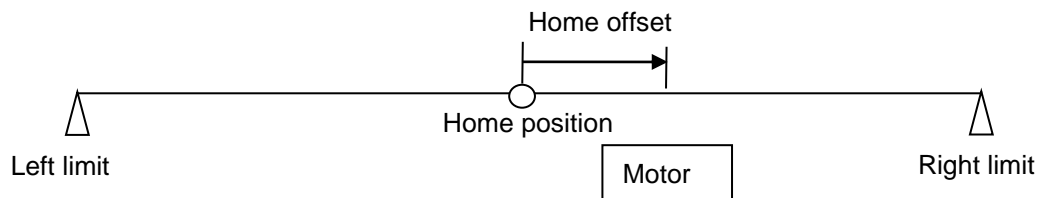

Figure 5.7.3
(3) CiA 402 homing mode
This method is only applicable to the homing mode (4) described above. When “Home Offset” is set to a nonzero value, the drive sets the home position found in the original condition to the value of “Home Offset”, as shown in figure 5.7.3. If “Home Offset” is positive, the coordinated origin is at the left side of home position found in the original condition; while if it is negative, the coordinated origin is at the right side of home position found in the original condition.